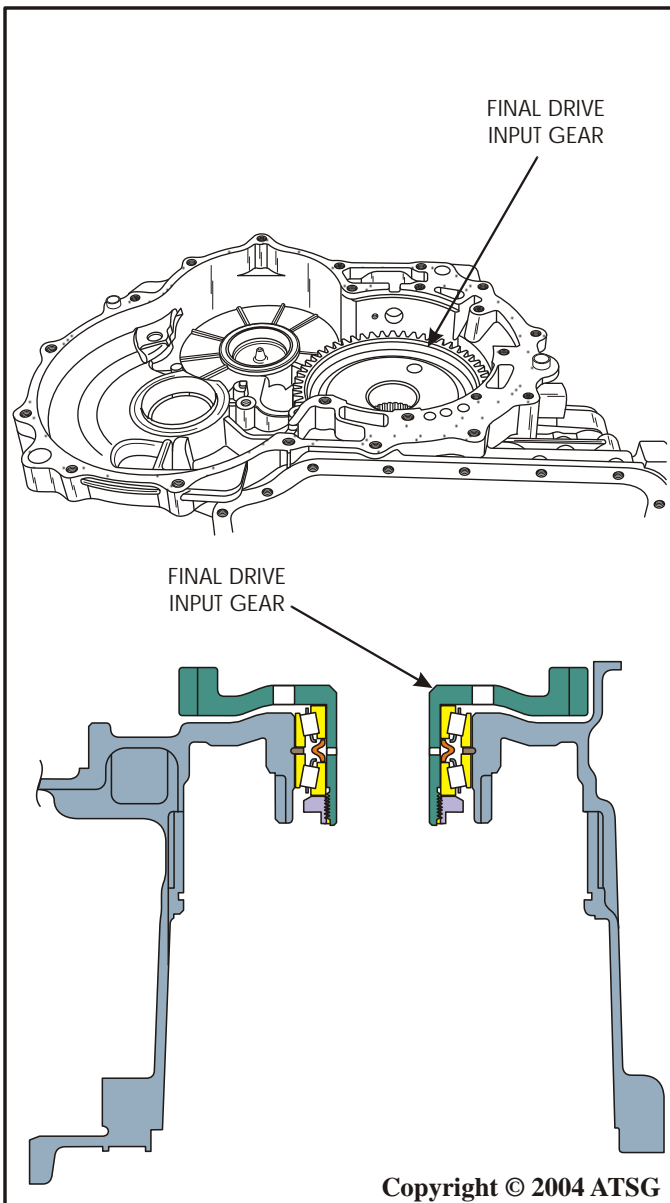

Figure 53
57. This now leaves nothing in the case except the final drive input gear, as shown in Figure 53.
**Note:** *This gear involves an exceptional amount of set-up time if it is removed, as it involves a "Crush" sleeve (See Figure 53). Our recommendation is "Not" to remove it, if there is no problem with the bearings. "If there are problems with the bearings", refer to the complete bearing and shim set-up in the Component Rebuild section.*